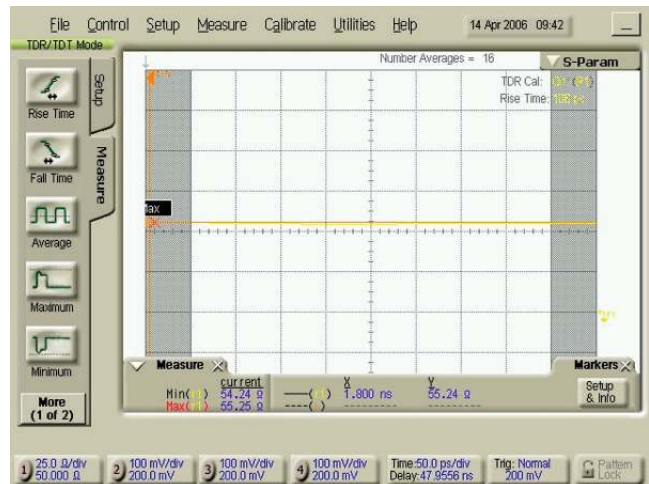

Figure 6. Cable Pair Match
- 3 Using the min/max measurement functions measure and note the minimum and maximum impedance for channel 1 (Z1 min and Z1 max). See Figure 6
- 3 Using the min/max measurement functions measure and note the minimum and maximum impedance for channel 2 (Z2 min Z2 and max). See Figure 6.
- 3 Using the min/max measurement functions measure and note the minimum and maximum impedance for channel 3 (Z3 min and Z3 max). See Figure 6.
- 3 Using the min/max measurement functions measure and note the minimum and maximum impedance for channel 4 (Z4 min and Z4 max). See Figure 6.